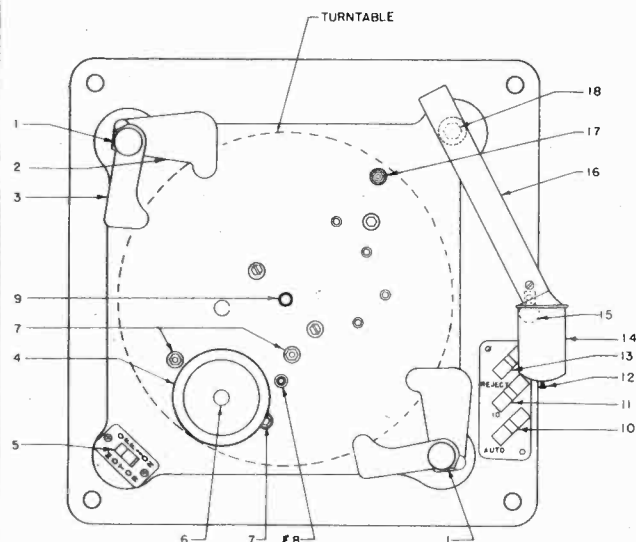

Fig. 1
The record changer is shipped from the factory adjusted for operation on a 50-cycle power supply. To change for 60-cycle operation, replace item (8) (Fig. 1) with the spare bushing supplied. (The spare bushing is shipped with each changer, tied to the frame with a piece of wire.) Sixty-cycle operation requires the smaller diameter bushing so as to reduce the turntable speed to 78 rpm. Note that if the mechanism is being operated on a 60-cycle power supply, and the turntable speed is too high, it means that too large a bushing is being used at (8) to drive the idler wheel (4), and that the smaller bushing should be used. Also, if the mechanism is being operated on a 50-cycle power supply, and the turntable speed is too low, it means that too small a bushing is being used at (8). Be sure the setscrew matches with the depression on the motor shaft and is securely tightened. When properly installed, the top of the bushing should be just a fraction below the top of the motor shaft.